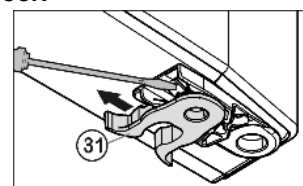

Fig. 8
- Transfer the spring clamp *Fig. 8 (31)*: Depress the latch nose and pull the spring clamp off over it.